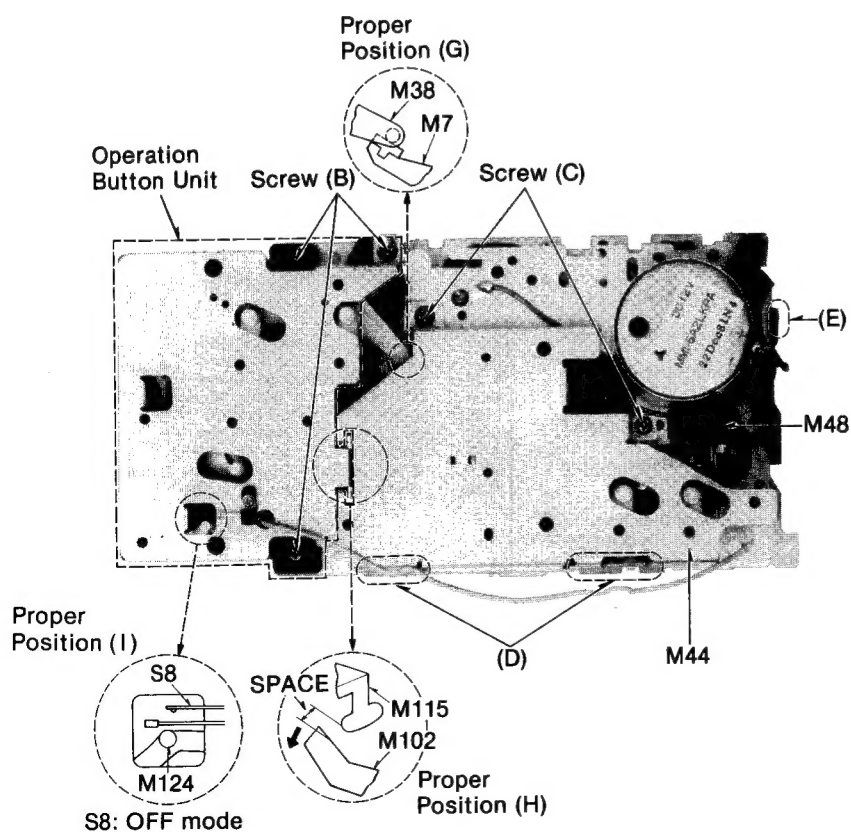

Fig. 2
2. Remove three screws (B) and remove operation button unit (see Fig. 2).
3. Remove two screws (C) and hook at section (D) to dismount flywheel retainer (M44) (see Fig. 2).
4. Remove hook at section (E) and cord clamber (M48) (see Fig. 2), and then remove two screws (F) (see Fig. 3) to dismount motor unit.
Before installing the operation button unit in the mechanism unit, pull the play changing lever (M102) of the mechanism unit in the direction of the arrow until it is locked, and set the pause, F.F. and rewind buttons of the operation button unit to OFF. At this time, check that all parts are installed at their proper positions at sections (G), (H) and (I) (see Fig. 2).